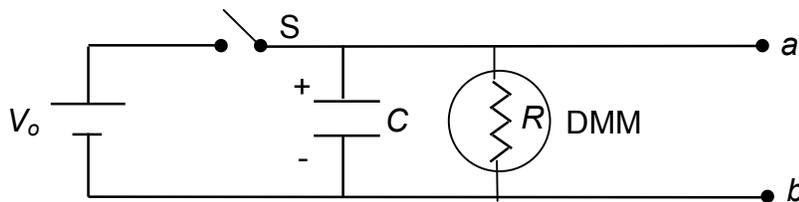

FIGURE 5
1. Build the circuit shown in Fig. 5 below where the capacitance, C , is a large capacitor with a value that can be read off the capacitor (it should be between 80 and 250 μF). As before, the DMM will measure the voltage across the capacitor, but you will act as a resistor when you touch the leads marked a and b .